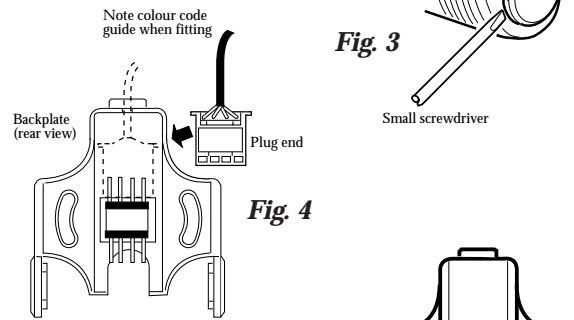

Fig. 3
- Carefully separate the sensor from the backplate using a small screwdriver (see Fig 3). Note: the sensor will remain connected by its internal cable.